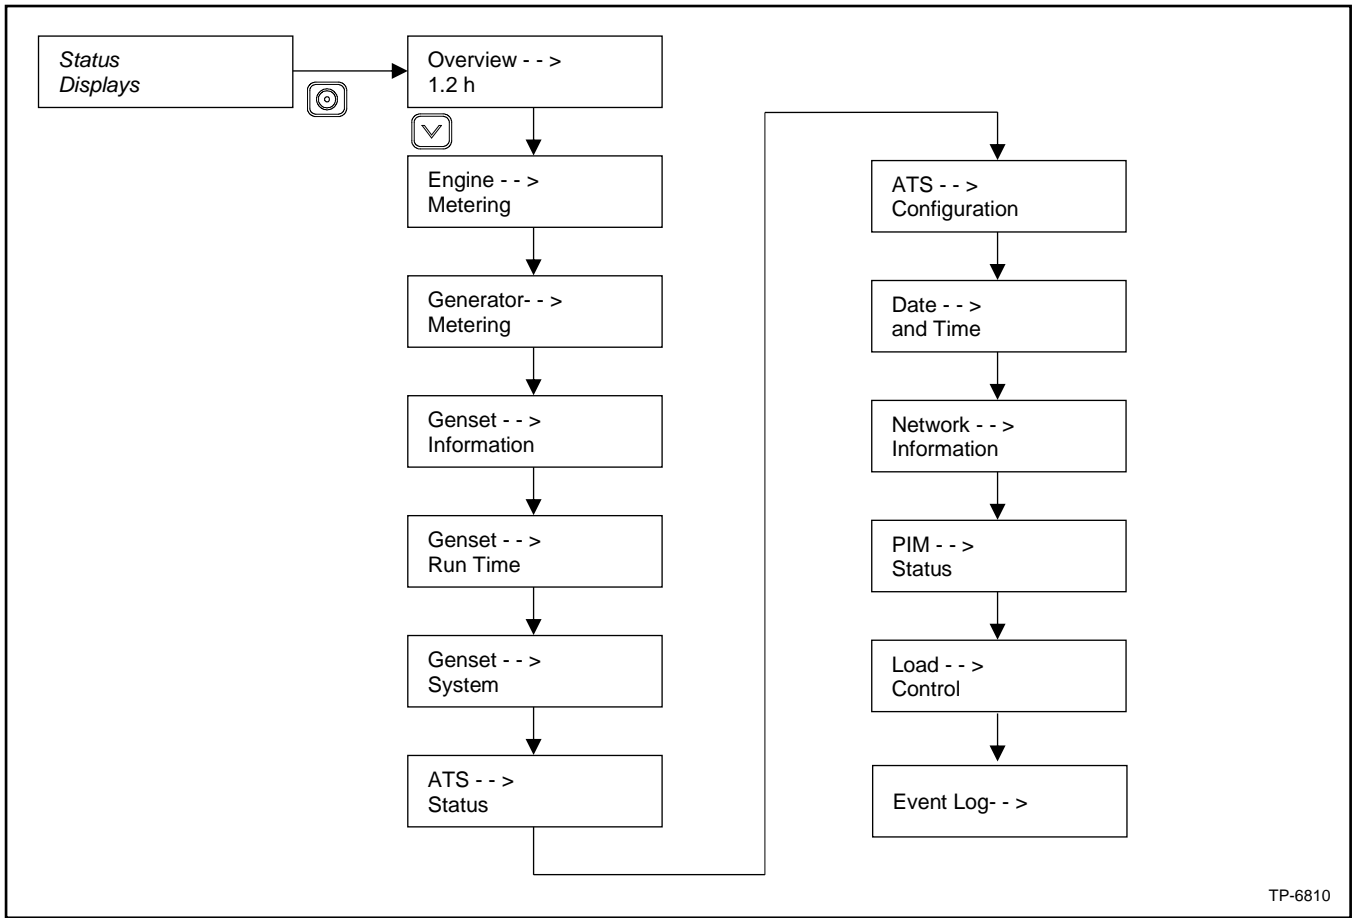

Figure 7 RDC2 Main Menu
2. Press the Select button to go to the main menu. See Figure 7.